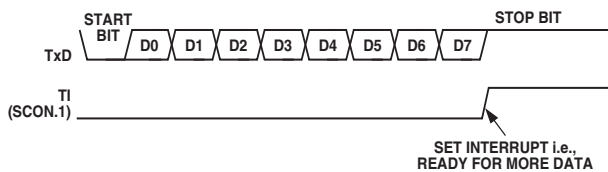

Figure 55. UART Serial Port Transmission, Mode 0
Transmission is initiated by writing to SBUF. The ‘write to SBUF’ signal also loads a 1 (stop bit) into the ninth bit position of the Transmit Shift Register. The data is output bit by bit until the stop bit appears on TxD and the transmit interrupt flag (TI) is automatically set as shown in Figure 55.